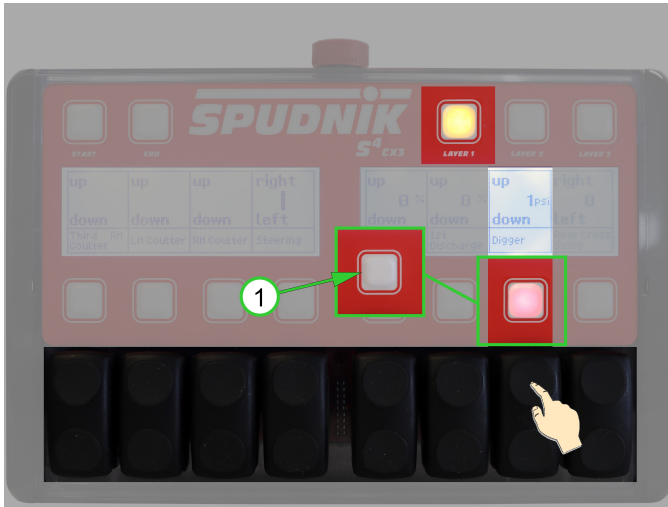

Figure 34
Press **LAYER 1** rocker switch 7 (*Digger*) up to raise the digger nose. The (1) soft key light turns off and the digger nose powers up for as long as the rocker switch is held. Upon releasing **LAYER 1** rocker switch 7 (*Digger*), the digger nose exits Ridge Relief. (See Figure 34)